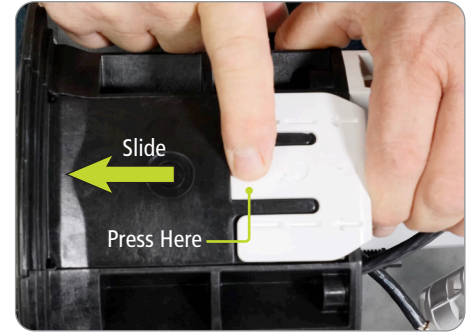

Figure 7
1. Confirm gel compression screw is not engaged. Then depress sealing wedge latch and slide wedge cover toward the base. (Figure 7)